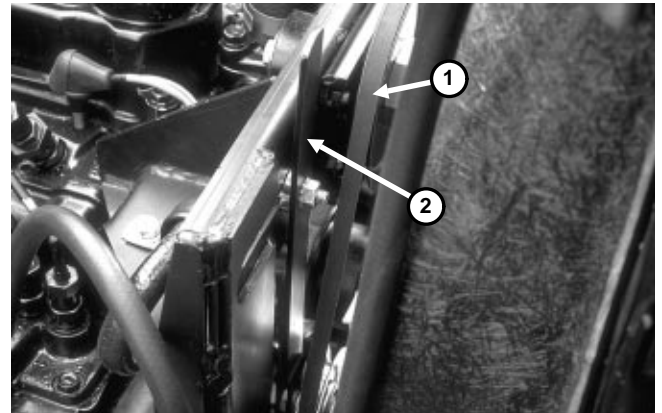
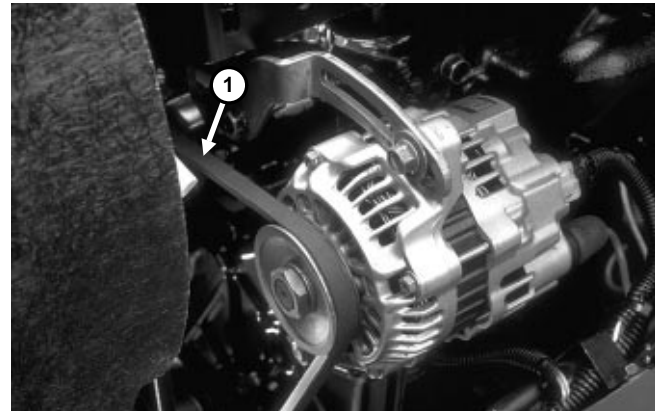

Figure 8
Figure 9
2. Loosen locknut on belt tensioner lever (Fig. 8). If replacing alternator belt, loosen bolt securing alternator brace to engine and bolt securing alternator to brace (Fig. 9).